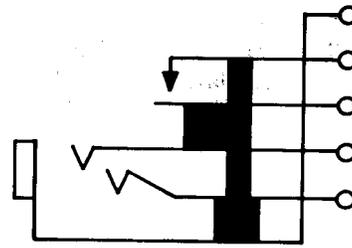

Fig. 18—241-Type Jack
2.18 241A, C, E, AM and CM: These single-mounted jacks (Fig. 18) are used with 150, 184, 213, 262, 310, 320, 331, 338, and 349 plugs. These jacks are heavily insulated. These jacks are mounted with the springs in a vertical plane.